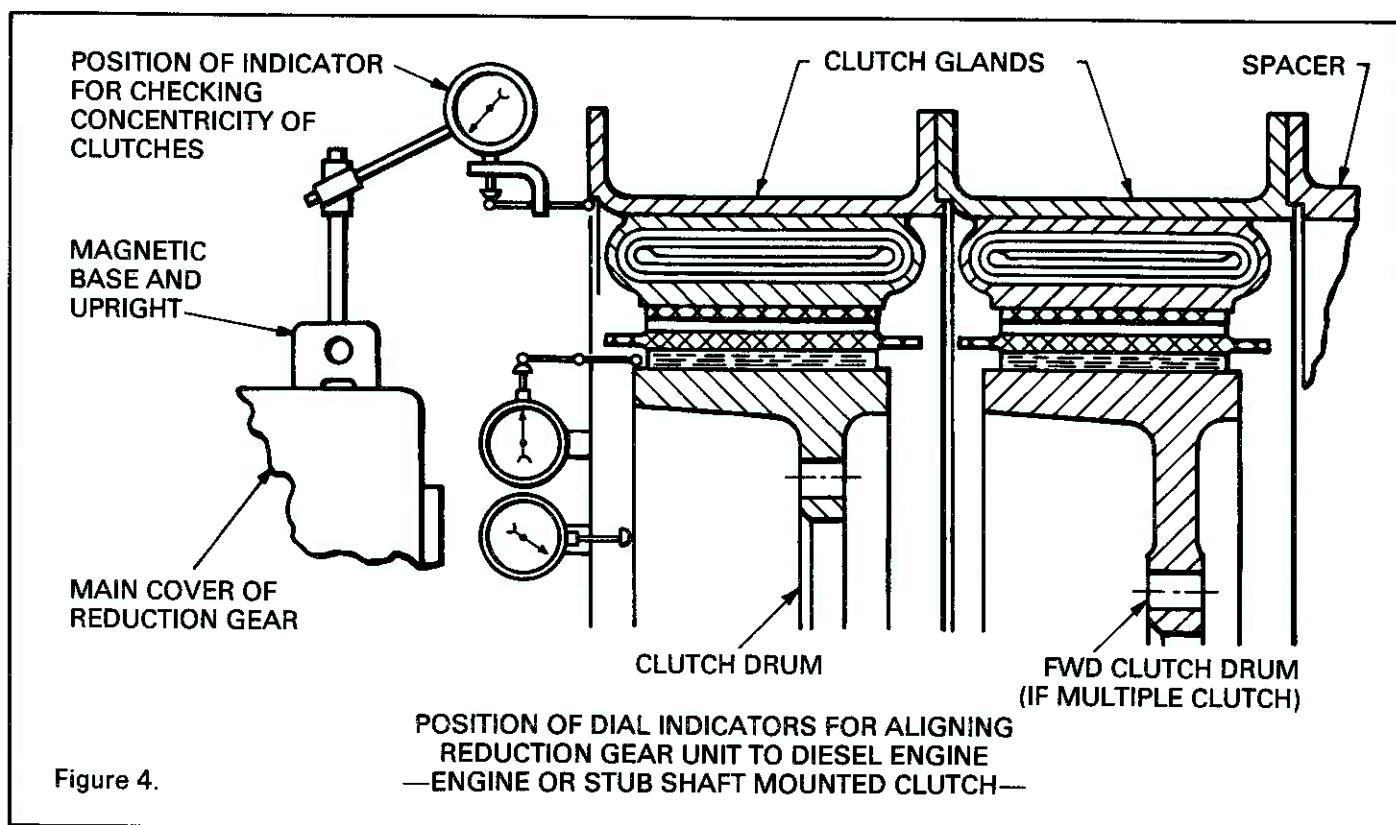

Figure 4.
- Make a preliminary alignment by moving engine horizontally and vertically such that the clutch assembly can be set in place without forcing or binding of parts. Assemble clutch glands and spacer to driving disc. See Figure 4 below.
7. Mount a dial indicator on some fixed point on the gear case so that it will run on the female pilot surface of the clutch gland. See Figure 4, Page 3. Rotate the clutch glands and check the concentricity. The maximum total indicator readings should not exceed .015". If this dimension is exceeded, remove and disassemble glands, spacer, and disc, and check for burrs, chips or other foreign matter which might prevent proper assembly and concentric running of these members.